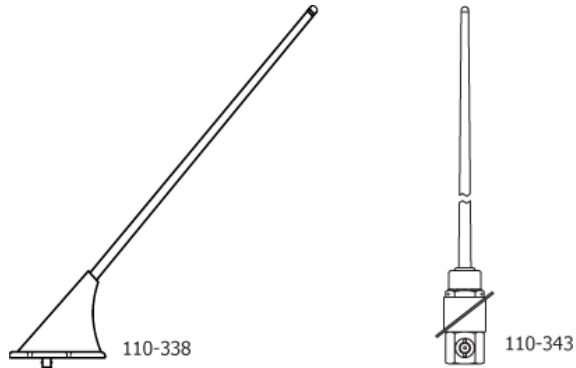
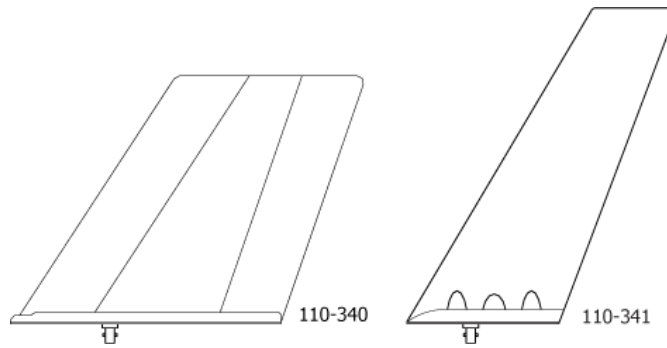

Figure 6 Rod and Whip Antennas
Figure 7 Blade Antennas
- 5) Four single-input antennas are approved for use with the C406-N Series ELT. Selection of the proper antenna is dependent upon end use, aircraft configuration and speed, and other factors. See Figure 6 Rod and Whip Antennas and Figure 7 Blade Antennas.